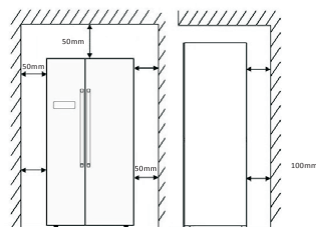

Fig. 1
- Ensure sufficient spacing is provided for the appliance to be installed. Leave space on both sides (50cm), back (100cm) and above the appliance (50cm) to ensure proper ventilation and door opening. See fig. 1&2